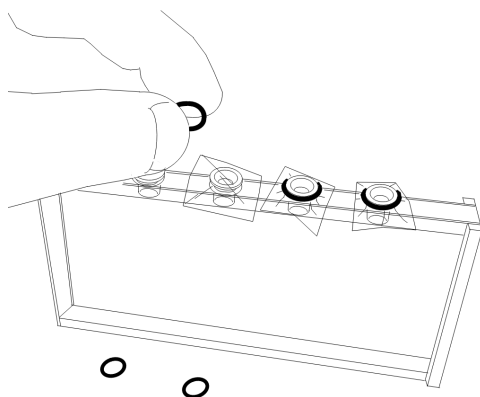

Fig.1
4. Place an O-ring on top of the films and press them to fix without wrinkles (see Fig.1, 2).